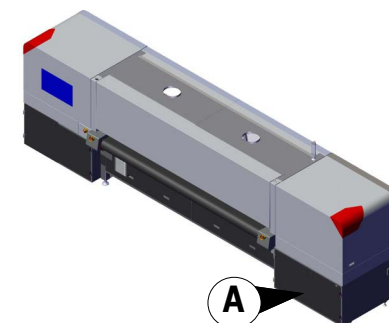

Figure 7-3 Printer Rear View
1. Open waste compartment doors, Figure 7-3 location (A).